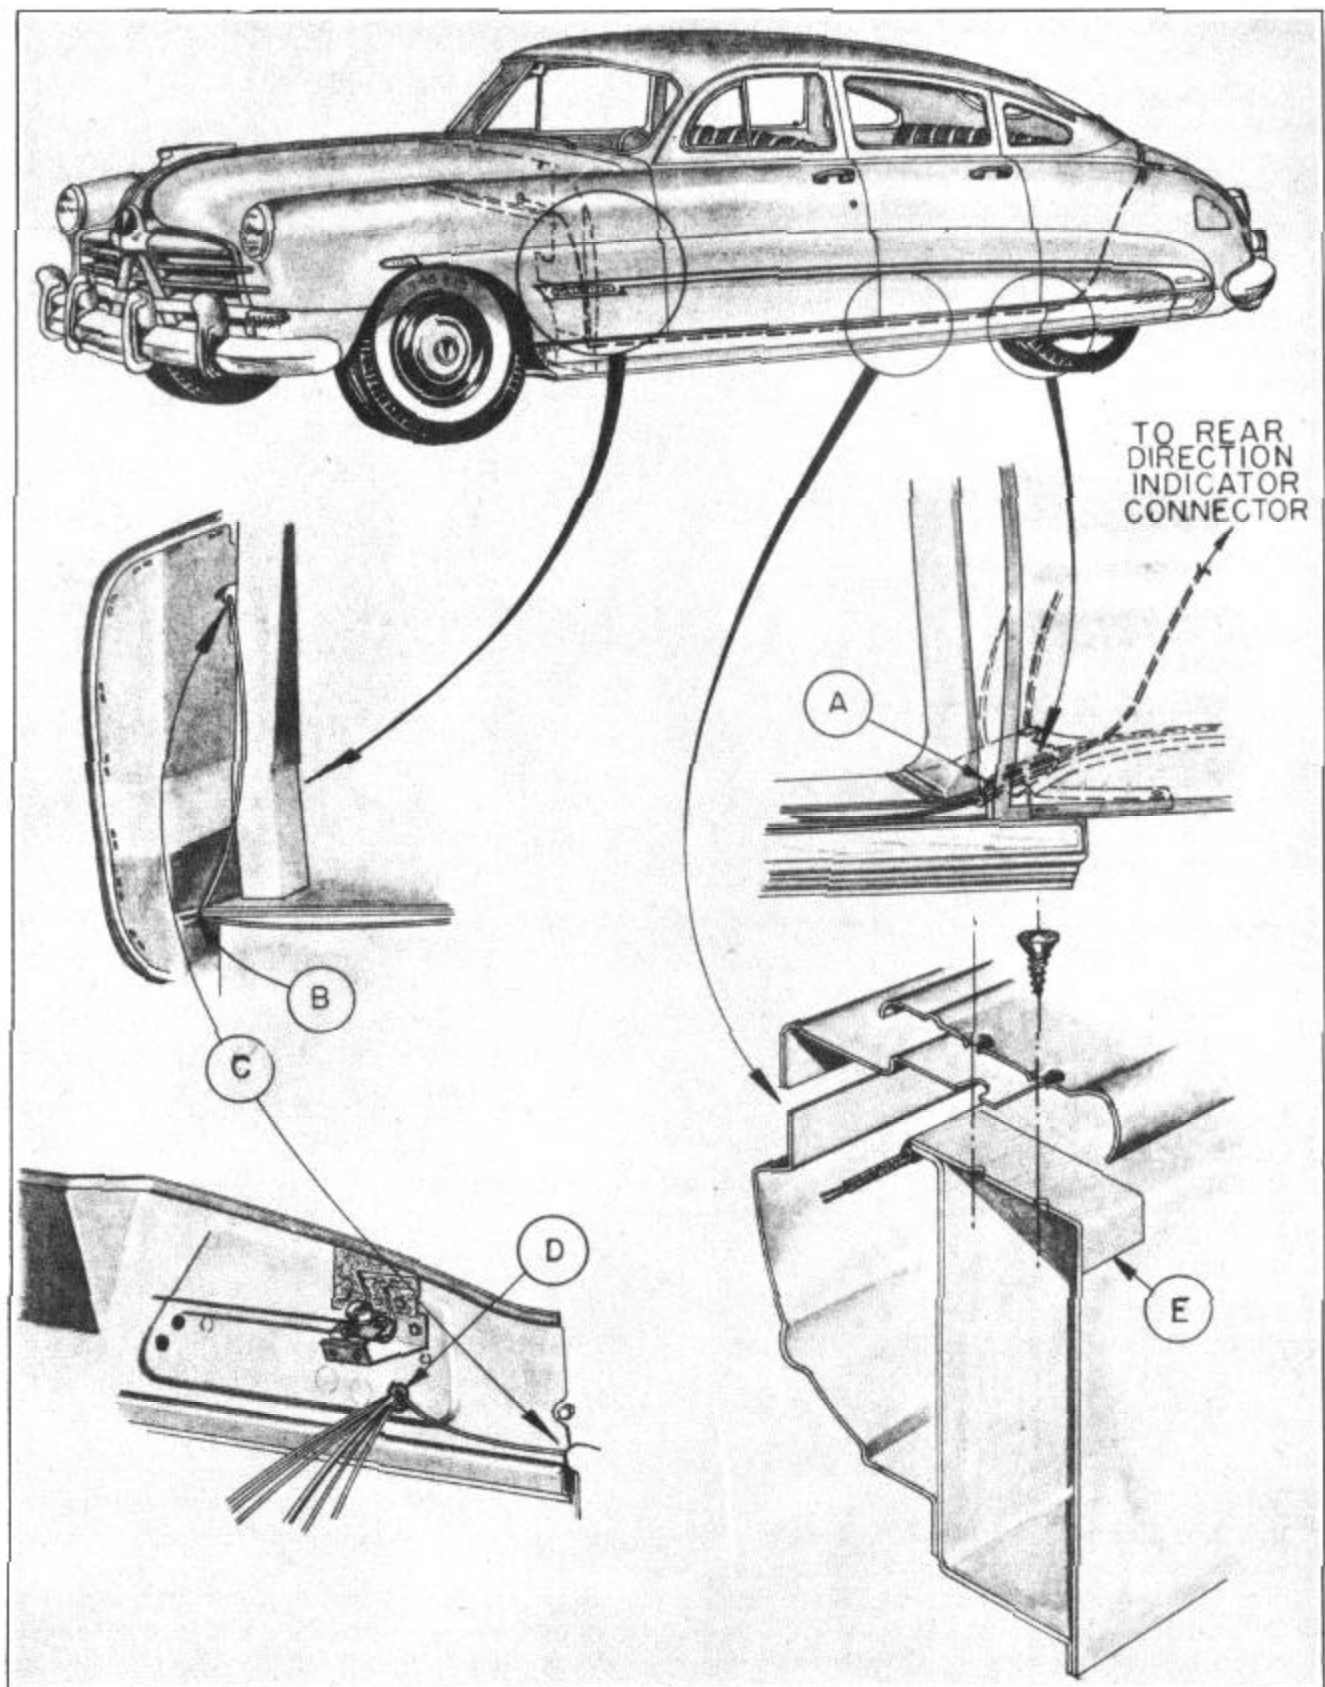

FIGURE 31
4. Starting from in front of rear door lock pillar between frame and rocker panel, insert a fish wire at point A, Figure 31, which is between the rear pillar and fender and above the fender to frame seal. Guide the fish wire upward and back between the wheelhouse and fender to project into the rear compartment. Attach the rear wire harness to the fish wire and withdraw the fish wire.
5. Install loom (3/8" I.D. x 6" long) over wire harness to protect wires at base of pillar shown at A, Figure 31.
6. At the left front fender wheel opening, lift the lower outside corner of the rubber stone guard and insert a fish wire between the r o c k e r panel and frame at a point shown at B, Figure 31. Guide fish wire back through to where scuff plate has been removed. Attach wire harness to fish wire; then withdraw fish wire.
7. F r o m the engine compartment, enter a fish wire through the opening between dash panel and stone guard (C) Figure 31. Guide the fish wire down till engaged with the wire harness. Then withdraw the fish wire, bringing the wire harness out through opening shown at C, Figure 31.
8. Enter the rear wire harness through the existing grommet in the dash panel shown at D, Figure 31, and pull through from inside the car.
9. Wrap a strip of electrical friction tape around the rear wire harness and lay the tape across the top of frame at a location c e n t e r e d with the scuff plate attaching holes shown at E in Figure 31.
9. Enter the wire harness through the existing grommet shown at D, Figure 31. Then pull through from inside of car.